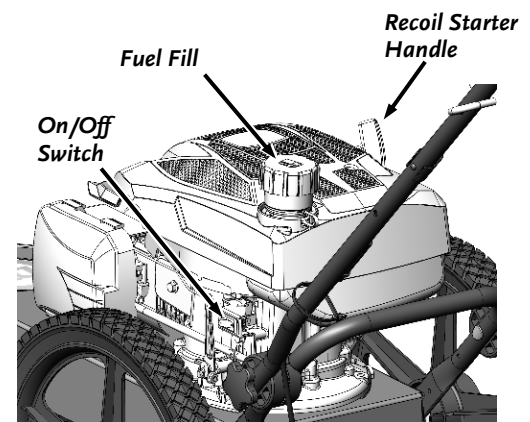

Figure 13B
1. Switch the ON/OFF Switch to the “ON” position (**Figure 13B**).